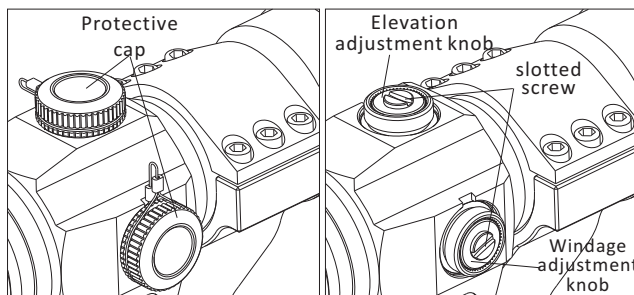

Fig 6
1. On top of sight is the elevation adjusting knob, windage adjusting knob is on the right side (see Fig 6). The sight has been adjusted for approximate zero in factory.
2. The built in screw driver tool on the protective cap can be used for zeroing adjustment (see Fig 6). See label inside cap.
3. First open the protective cap (see Fig 6), position slot type screwdriver on the slotted screw, then rotate the screw to right or left for adjustment. Each left or right click is for one adjustment equivalent to 0.5MOA value.